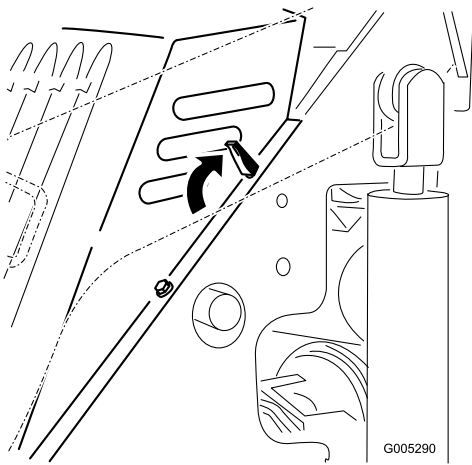

Figure 17
4. Release the 4 locking tabs (Figure 17).
1. Position the hood over the machine frame with the posts on the hood fitting into the holes in the frame (Figure 17).
2. Secure the hood by pushing the locking tabs forward and down (Figure 17).